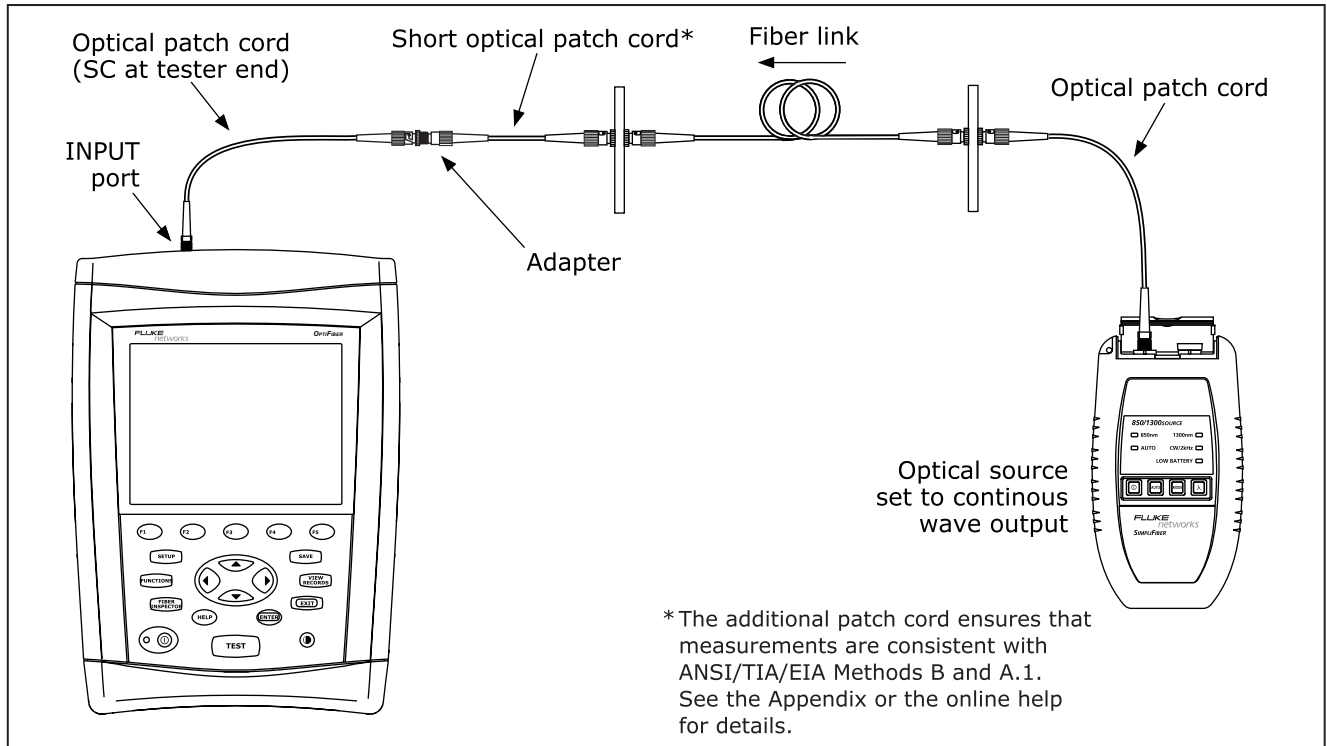

Figure 6-10. Far End Source Mode Test Connections
4. Connect the tester to the cabling as shown in Figure 6-10.